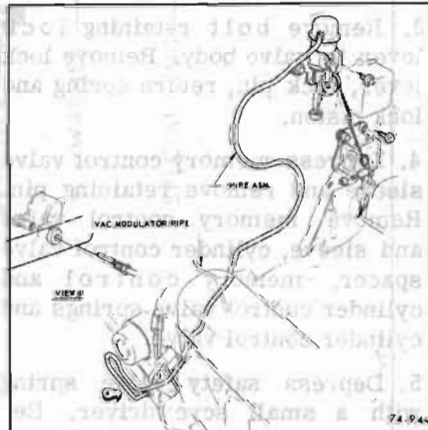

Figure 75-932—Installing Hydraulic Control Line Fitting into Oil Pan
5. Install hydraulic control line into fitting on pan. Torque nut to 5 lb. ft. See Figure 75-932.